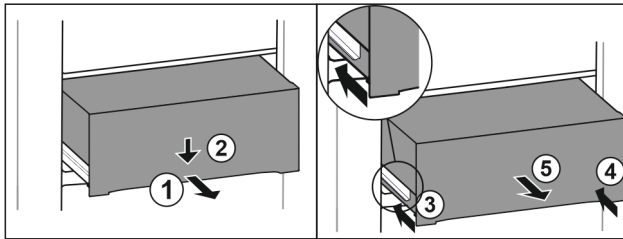

Fig. 117
- ▶ Pull out drawer half-way. Fig. 117 (1)
- ▶ Push the drawer down at the front. Fig. 117 (2)
- ▶ Push the left rail in by about 2 cm. Fig. 117 (3)
- ▶ Push the right rail in by about 2 cm. Fig. 117 (4)
- ▶ Remove drawer to the front. Fig. 117 (5)